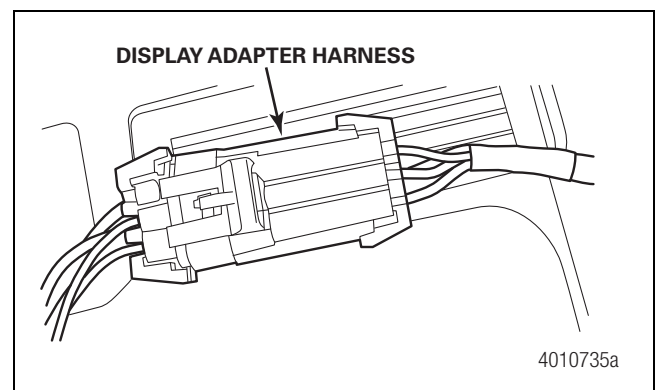

Figure 8
1. Connect the OEM display connector to the display adapter harness by pushing on the connector end until it snaps into the connector. Figure 8.